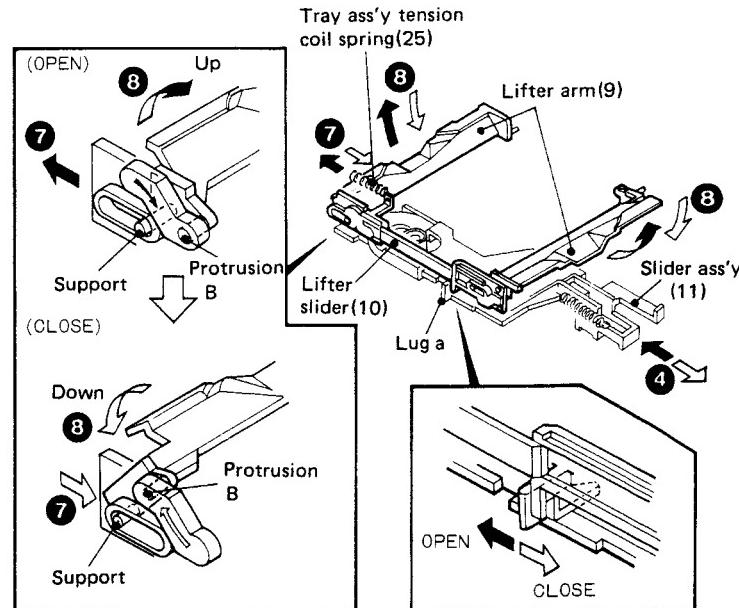

Fig. 5 Lifter arm up/down operation
Fig. 5 shows the OPEN operation until the disc is lifted from the turntable and placed on the disc tray so that the disc is removed from the player. These operations are performed almost at the same time as the up operations of the clasper arm(8) when the tray is opened as described in Fig. 2 to 4 above.